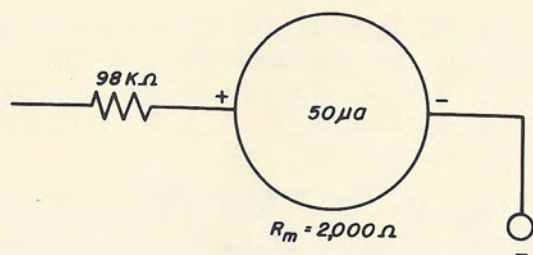

Fig. 11-2
Therefore, the resistance value of the multiplier should be 98,000 ohms. Draw this resistor on your schematic diagram, as shown in Fig. 11-2.
Step 5. Calculate the value of the multiplier that must be added to the meter circuit shown in Fig. 11-2 so that the meter can be used to measure voltages up to 25 volts d.c. The procedure is the same as that described in Steps 3 and 4. Read no further until you have performed your calculations.